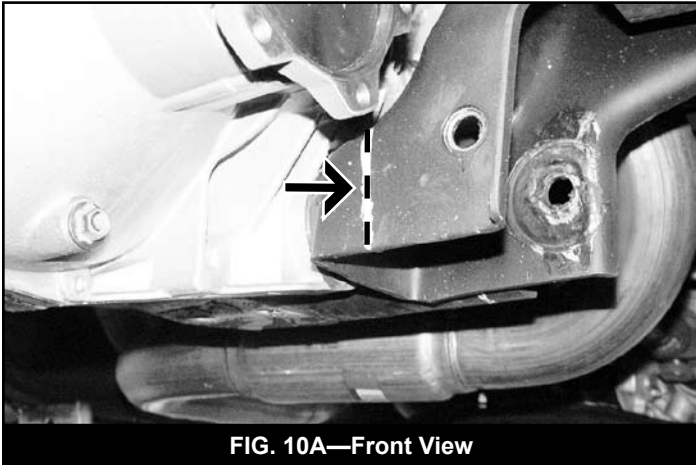

FIG. 10A—Front View
32. The driver's side rear differential mount must be removed. Measure from the backside of the control arm pocket 1-3/4" and make a vertical cut line around the entire pocket (Fig 10A, 10B). Using a sawzall, die grinder or plasma cutter, remove the differential mount from the frame. Note: Always check for fuel lines and/or electrical wires before cutting. Undercoating is flammable. Keep a fire extinguisher close by for safety.